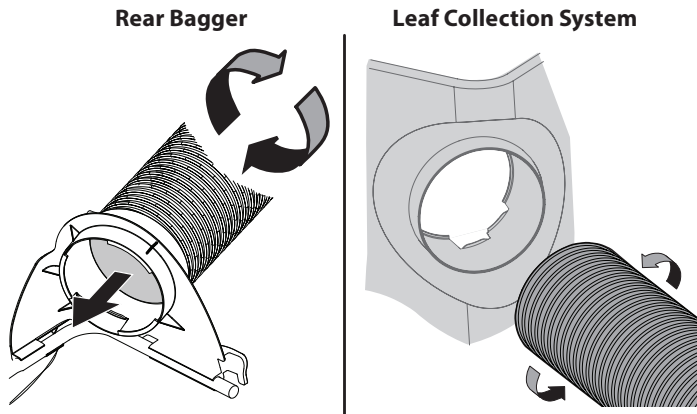

Figure 1
1. Thread upper end of hose securely into upper chute support (Rear Bagger) or bag vent (Leaf Collection System). There are two tabs on the lower inside part of the upper chute support/bag vent to allow for secure threading. See Figure 1.